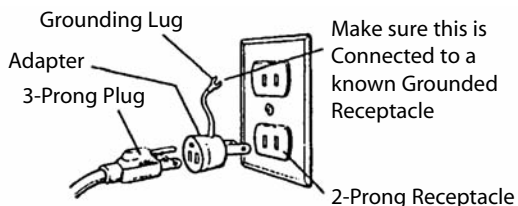

Figure 5 – 2-Prong Receptacle with Adapter
- A temporary 3-prong to 2-prong grounding adapter (See Figure 5) is available for connecting plugs to a two pole outlet if it is properly grounded.